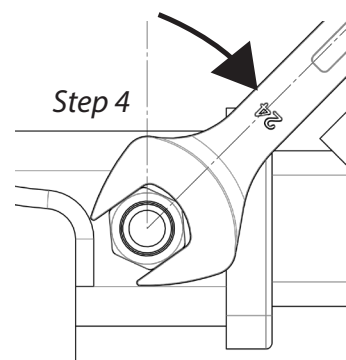

Fig 4. Tightening of Smart Pin Nut
STEP 4 Tighten SMART PIN NUT by turning nut a further 1/8th of a turn in the clockwise direction using a 24mm spanner (Fig 4).